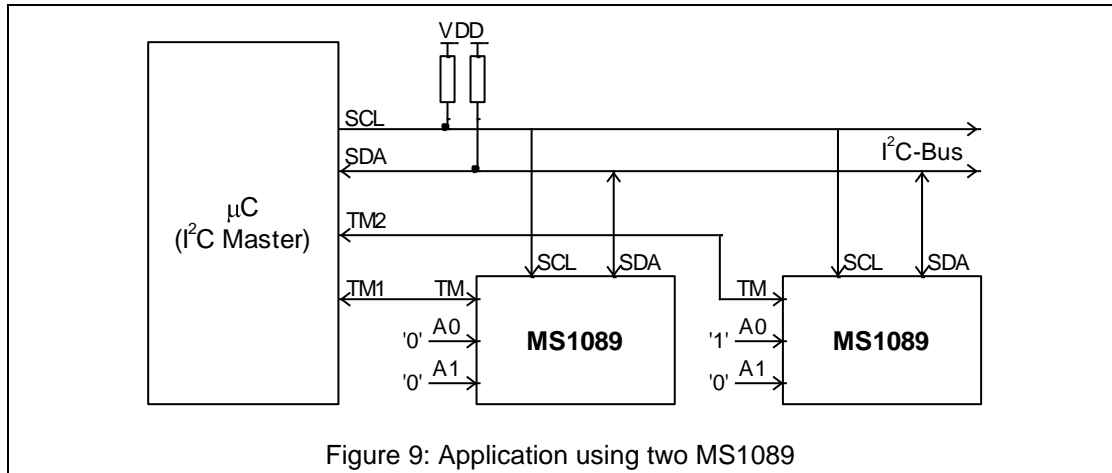

Figure 9: Application using two MS1089
4. If two or more MS1089 are used in the application (for example when measuring the temperature in 2 places - see Figure 9), the controller can start both MS1089 simultaneously by pulling down all TM inputs at the same time. In contrast, starting with I²C requires sending two I2 commands sequentially, one per MS1089 chip.